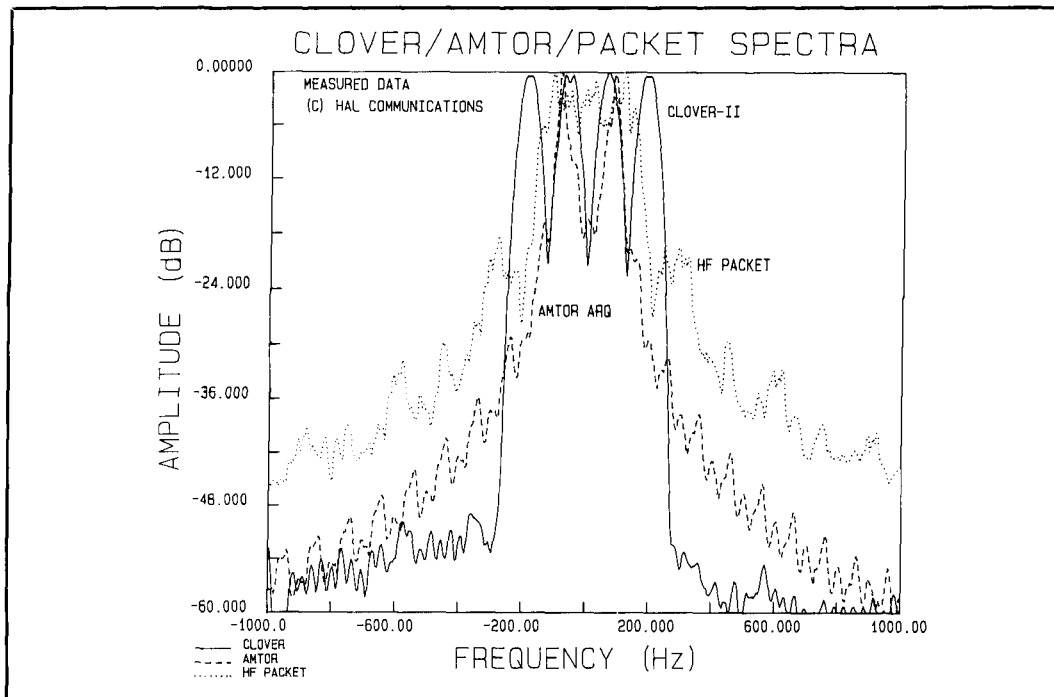
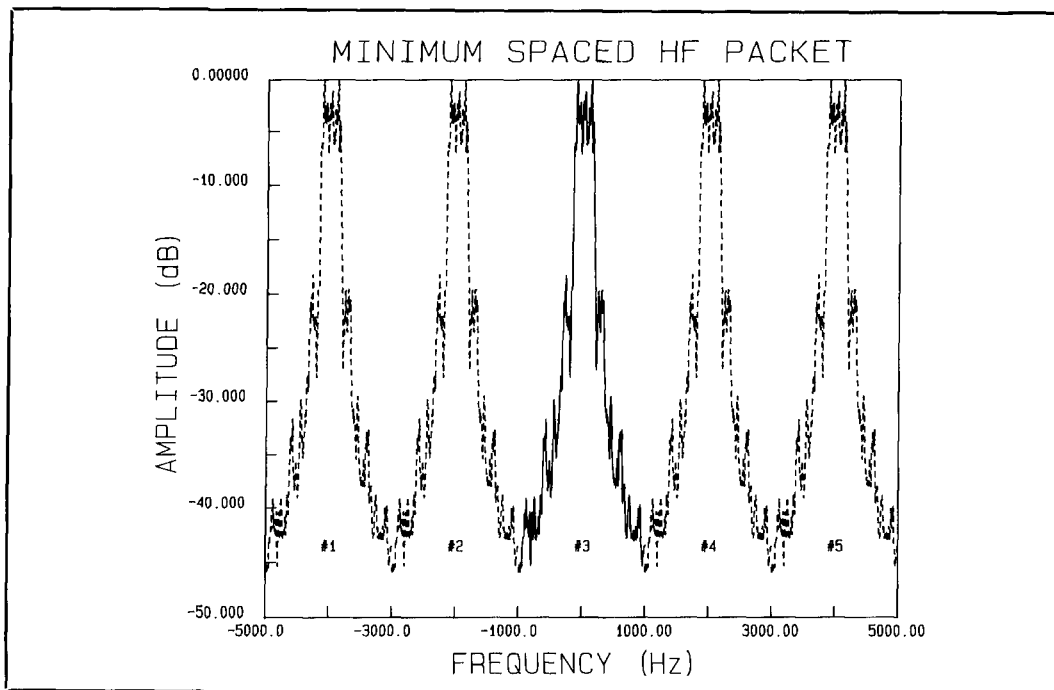

Figure 5. CLOVER/AMTOR/packet spectra.
Figure 6. Minimum spaced HF packet.
Figure 5* shows a combined plot of the spectrum of AMTOR, HF packet, and
* The data plotted in Figures 5, 6, 7, and 8 are the same data shown in Figures 2, 3, and 4.
Figures 6, 7, and 8 show how much bandwidth is required to support five minimally spaced HF Packet, AMTOR, and CLOVER signals, respectively (see the footnote for Figure 5). Five HF packet signals require 10 kHz of an HF band, five AMTOR signals require 5 kHz, and five CLOVER signals require 2.5 kHz of the band. Put another way, four CLOVER signals will fit in the same bandwidth required for one HF packet signal, and the data throughput is ten times higher on each CLOVER signal.